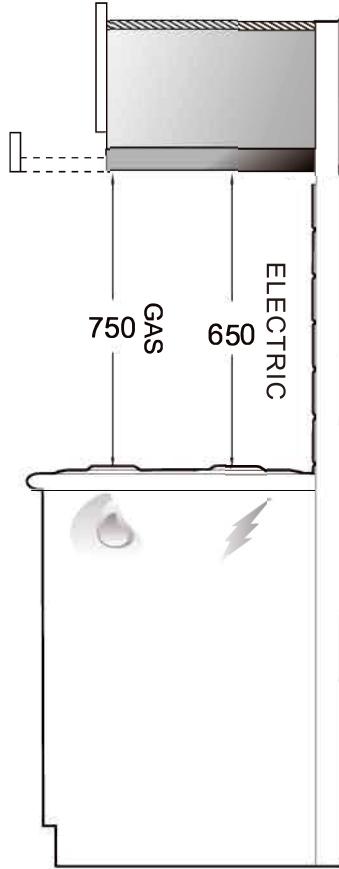

Fig.5
- The hood is to be mounted on the mounting board of the cabinet. When installed, the hood must be not less than 65cm above electric burners or 75cm above gas or mixed-fuel burners. (Fig.5)